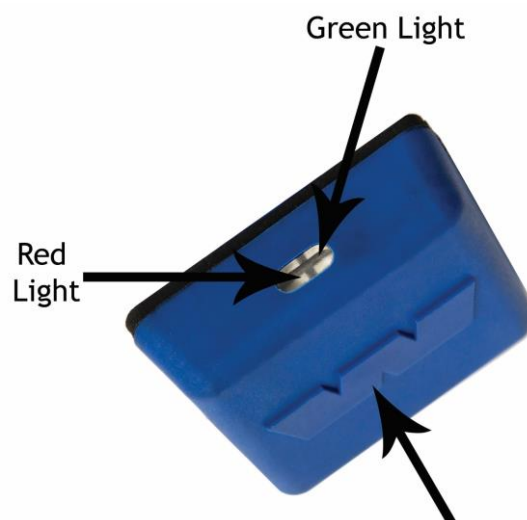

Figure 15: Location to swipe an AccessPoint
- 4) Swipe a user card by moving card across the face of the AccessPoint (see Figure 15). AccessPoint will turn the green light on for an authorized card read or turn on the red light for an unauthorized card read.